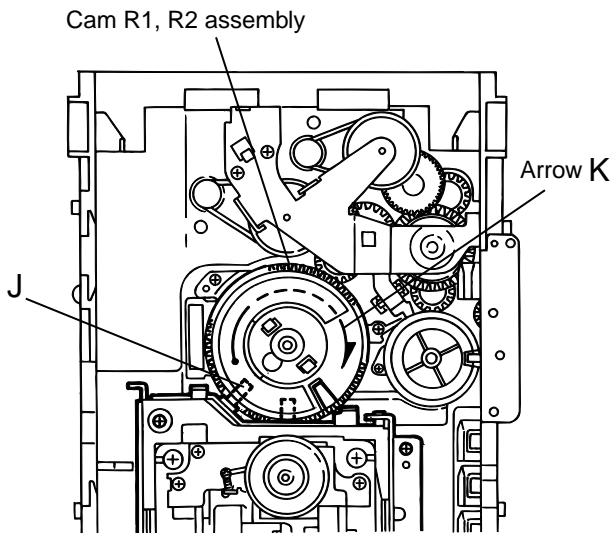

Fig.11
■ Removing the DVD mechanism (See Fig.11 and 12)
1. For dismounting only the DVD mechanism without removing the DVD mechanism assembly, align the shaft "J" of the DVD mechanism assembly to the position shown Fig.11 while turning the cam R1 and R2 assembly in the arrow direction "K" .